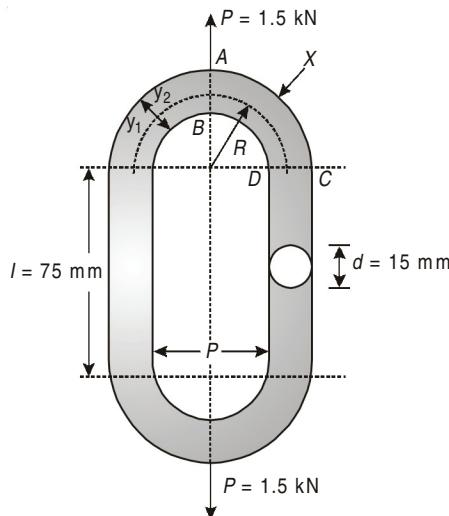

Fig. 11.23
2. A chain link (Fig. 11.23) is made of round steel of 15 mm diameter. If $R = 45 \text{ mm}$, $L = 75 \text{ mm}$ load applied is 1.5 kN. Determine the maximum compressive stress in the link and tensile stresses at the same section.